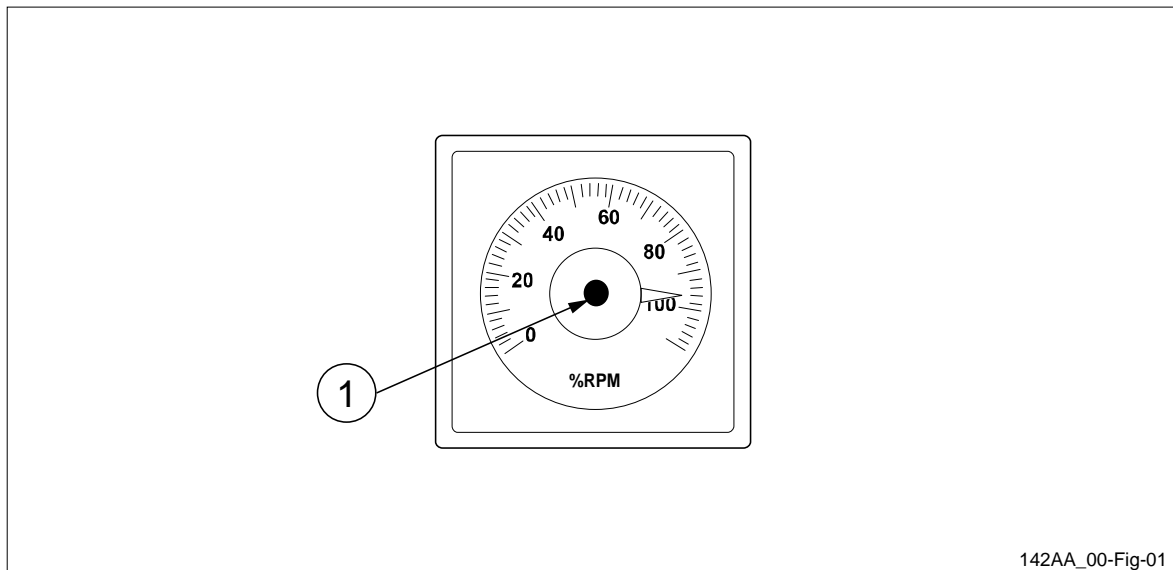

Figure 18 RPM indicator front side in an ECR control panel.
2. With no input signal to the instrument, adjust its zero indication with the adjustment screw on the front side, indicated in figure 18.